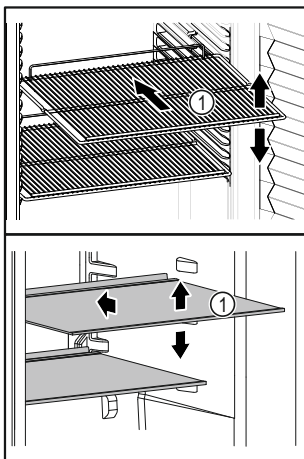

Fig. 50 Example illustration
- If storage surfaces *Fig. 50 (1)* are movable, adjust them according to height.